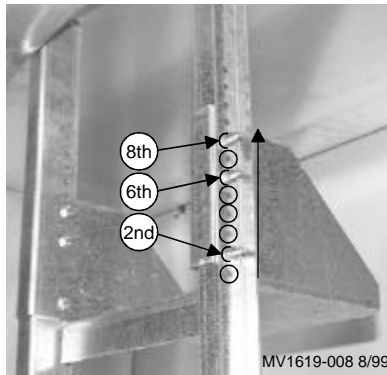

Figure 5. Bolt Position for Bracket Mounting
4. Mount the new U-Motor Mounting Bracket to the posts at the second, and sixth, and eighth holes, **see Figure 5**, up in the upper hole combination with the 1/4" bolts, the bolt heads should be to the inside, and 1/4" lock nuts provided.